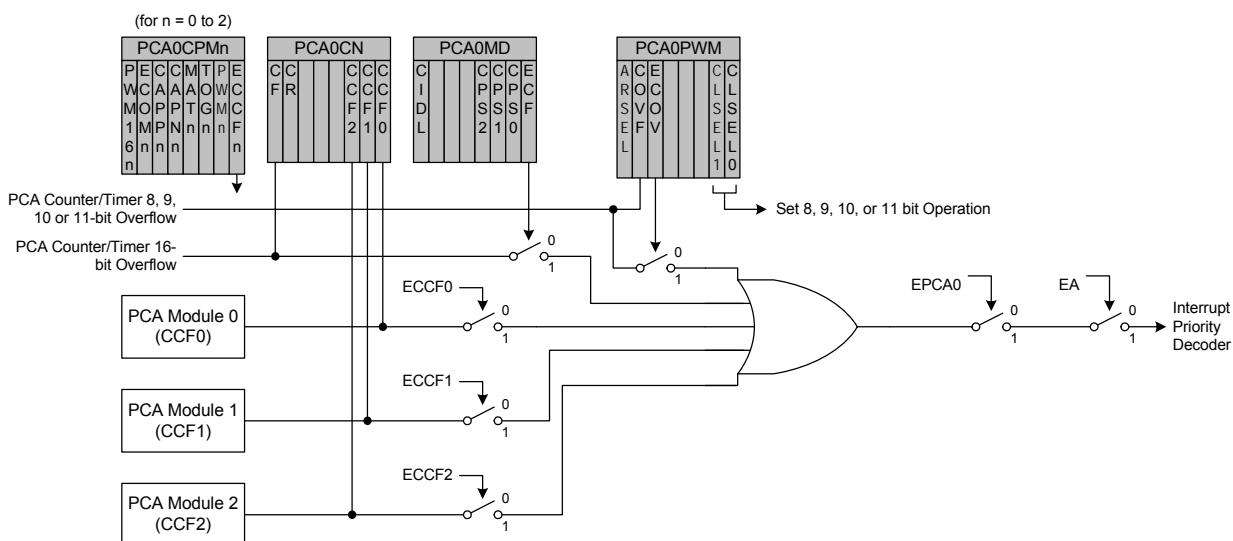

Figure 32.3. PCA Interrupt Block Diagram
Figure 32.3 shows a diagram of the PCA interrupt tree. There are eight independent event flags that can be used to generate a PCA0 interrupt. They are: the main PCA counter overflow flag (CF), which is set upon a 16-bit overflow of the PCA0 counter, an intermediate overflow flag (COVF), which can be set on an overflow from the 8th, 9th, 10th, or 11th bit of the PCA0 counter, and the individual flags for each PCA channel (CCF0, CCF1, and CCF2), which are set according to the operation mode of that module. These event flags are always set when the trigger condition occurs. Each of these flags can be individually selected to generate a PCA0 interrupt, using the corresponding interrupt enable flag (ECF for CF, ECOV for COVF, and ECCFn for each CCFn). PCA0 interrupts must be globally enabled before any individual interrupt sources are recognized by the processor. PCA0 interrupts are globally enabled by setting the EA bit and the EPCA0 bit to logic 1.